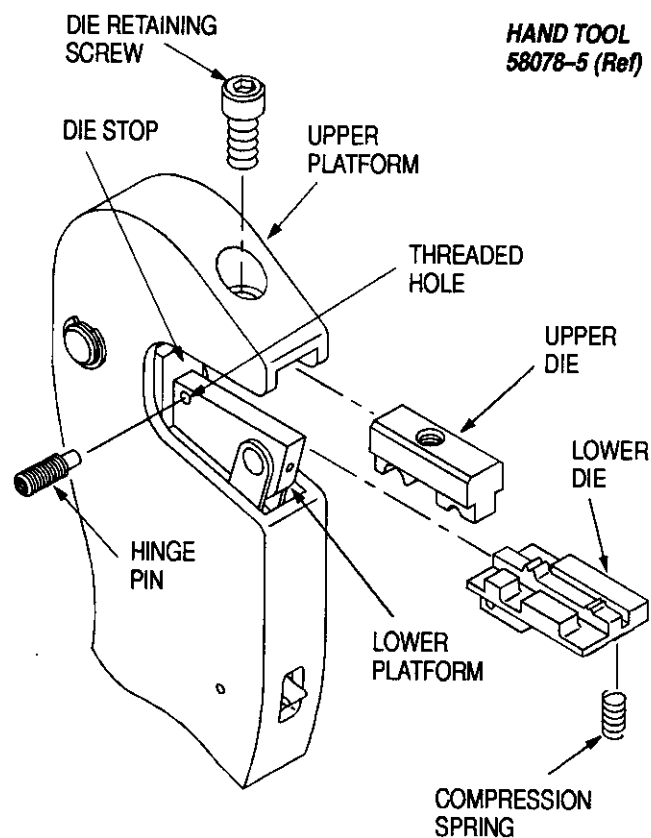

Figure 2
2. Insert compression spring in lower die. See Figure 2.